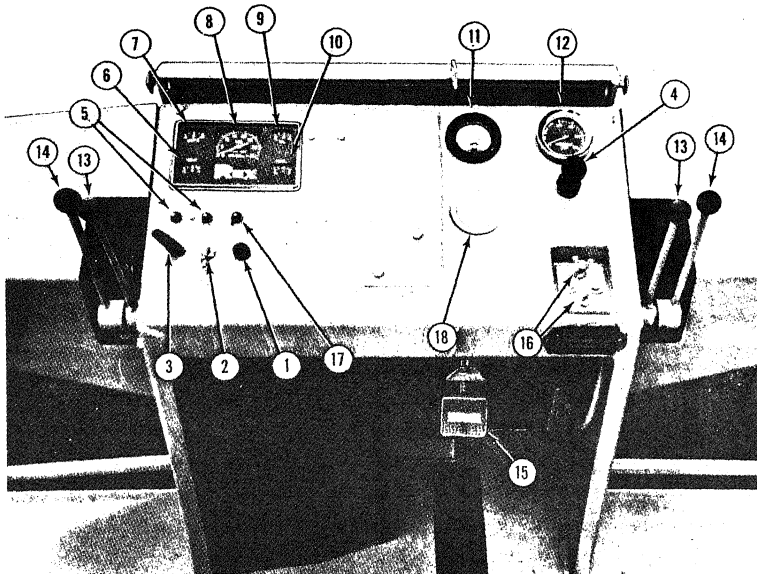

FIGURE 4
NOTE: The instrument and control counsel shown in figure 4 is of a SP900 "Asphalt" Roller. The SP848 and SP1300 "Soil" Rollers do not have items 5 and 17. Also for the Soil Rollers, the steering wheel is located in the center of the counsel. The SP900 has Dual Steering.
OPERATION (Fig. 4)